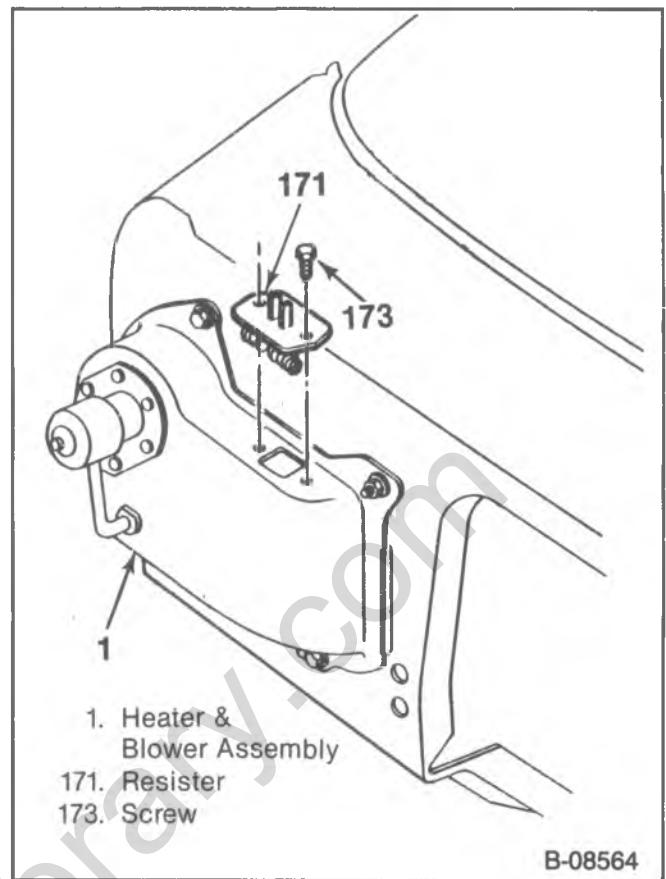

Figure 25—Resistor Replacement
↔ Remove or Disconnect (Figure 25)
2. Wiring harness from the resistor (171) (figure 25).
3. Screws (173).
4. Resistor (171).
↔ Install or Connect (Figure 25)